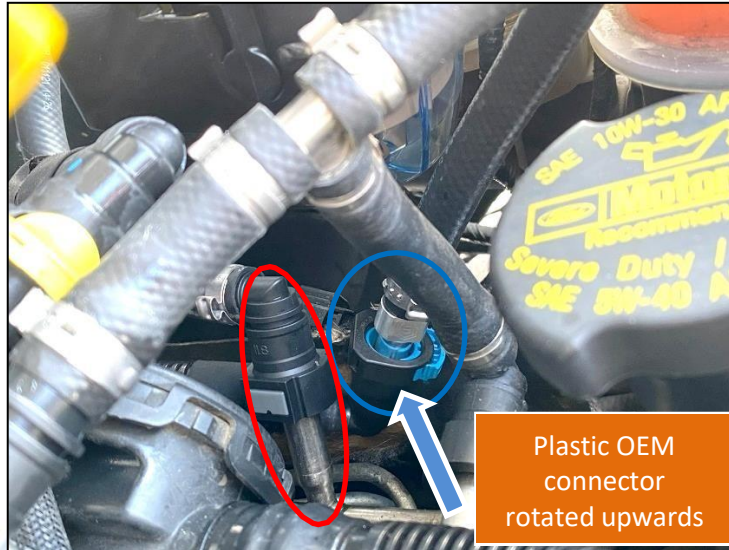

Figure 4: Quick connect to remove and rotate up (blue circle)
- b. Disconnect the return line quick-connect fitting (highlighted in blue in Figure 4) from the factory metal return barb (highlighted in red in Figure 4).
- d. Install the Larger Quick Connect: Secure the larger quick-connect fitting onto the OEM metal barb from which you previously detached the factory fitting (see Figure 4).